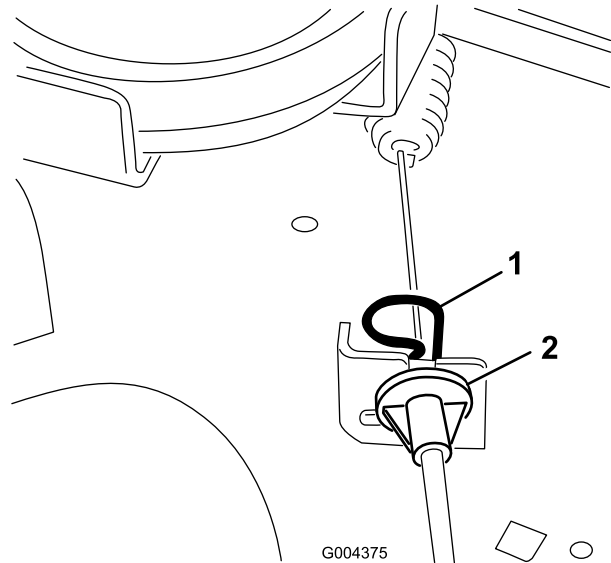

Figure 3
4. Remove the hairpin clip from the PTO cable end fitting (Figure 3).
6. Unhook the PTO cable spring from the idler bracket (Figure 3).